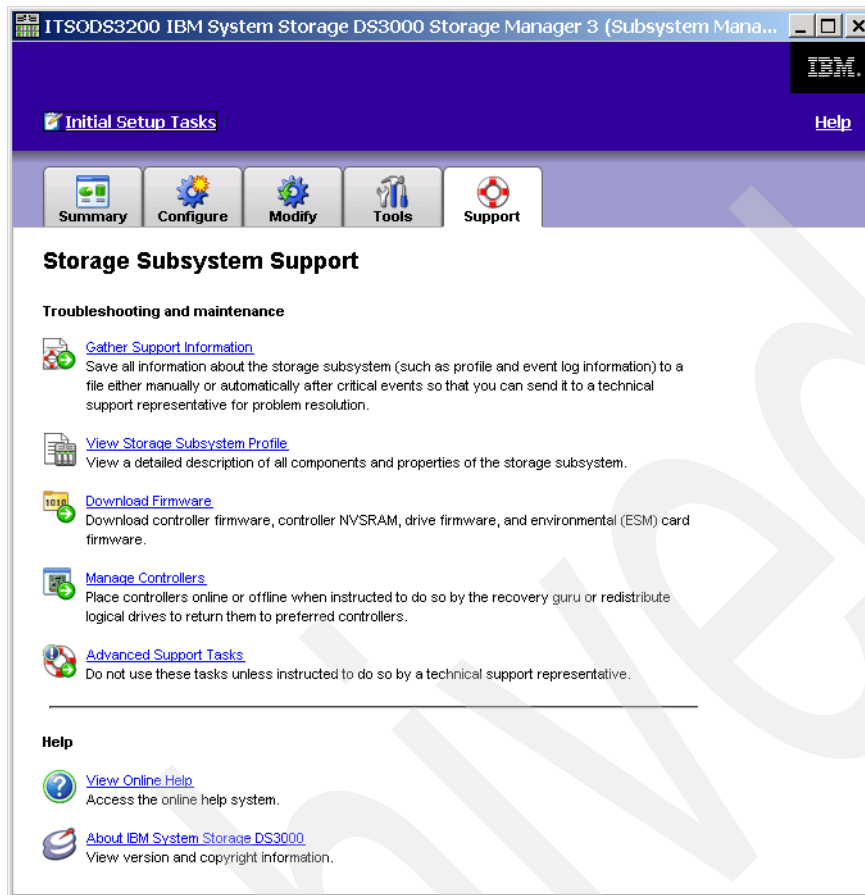
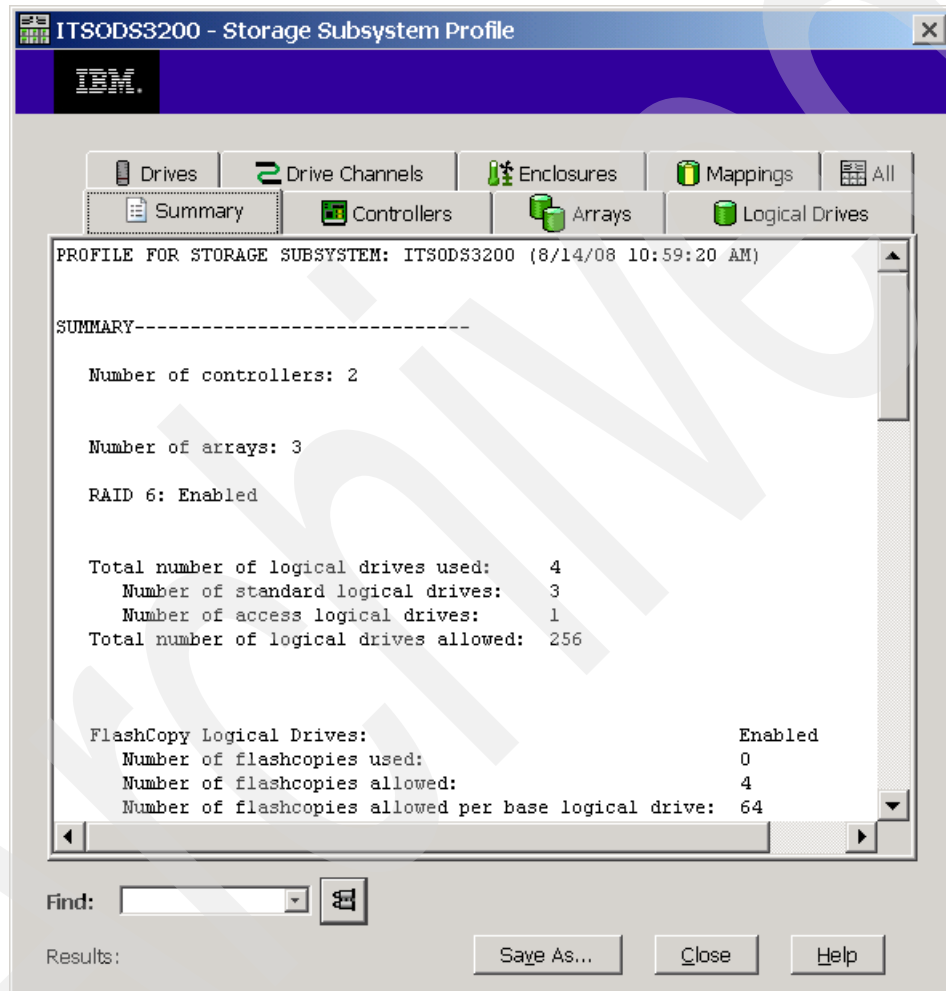

Figure 14-1 Storage Subsystem Support Tab
Figure 14-8 View Storage Subsystem Profile
The Support tab (Figure 14-1 on page 300) covers the following links:
Click the link **Gather Support Information** in the main Support tab (Figure 14-1 on page 300) to display the following window (Figure 14-2) with two options.
1. Click **View Storage Subsystem Profile** in the Support tab (Figure 14-1 on page 300). The Storage Subsystem Profile window appears, as shown in the Figure 14-8.